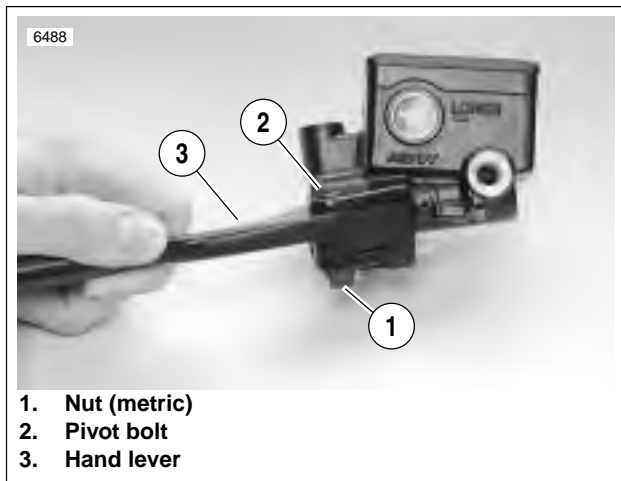
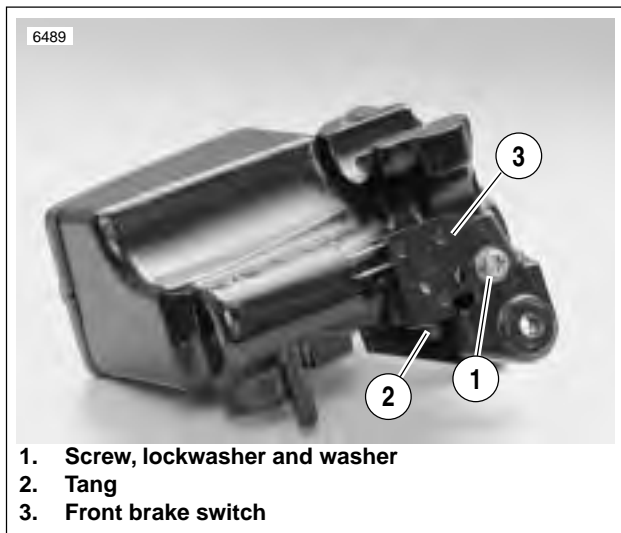
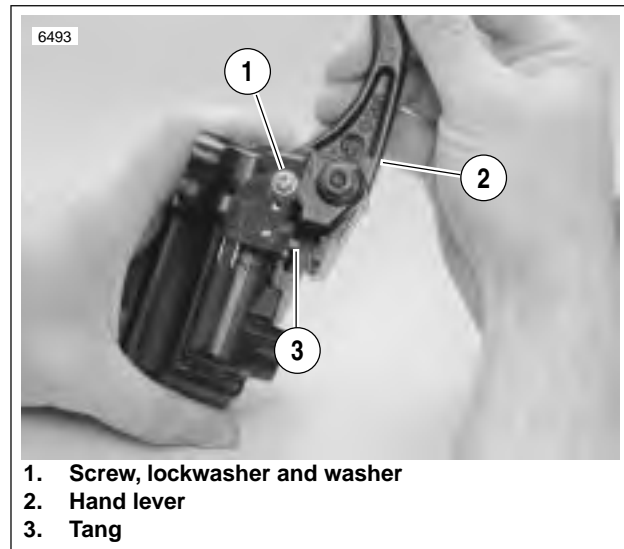

Figure 2-28. Hand Lever
Figure 2-29. Front Brake Switch
Figure 2-34. Testing Hand Lever
1. See Figure 2-28. Detach front brake hand lever.
- a. Remove nut (1) (metric) from lever pivot.
- b. Remove pivot bolt (2) from lever pivot.
3. See Figure 2-29. Remove screw, lock washer and washer (1) holding front brake switch (3) to master cylinder assembly. Remove switch.
2. Insert piston assembly, spring first, into master cylinder. Secure with a **new** snap ring (6).
3. Install ridge on boot (5) into groove on piston (4).
4. See Figure 2-28. Install front brake hand lever.
- b. Lubricate pivot bolt (2) with Loctite Anti-Seize.
- d. Install nut (1) (metric). Tighten to 44-62 **in-lbs** (5-7 Nm).
5. See Figure 2-29. Install front brake lamp switch (7).
- a. Attach front brake switch with screw, washer and lockwasher (1). Tighten to 7-13 **in-lbs** (0.8-1.5 Nm).
- b. See Figure 2-34. Test switch action. Tang (3) on switch must release when hand lever (2) is moved.